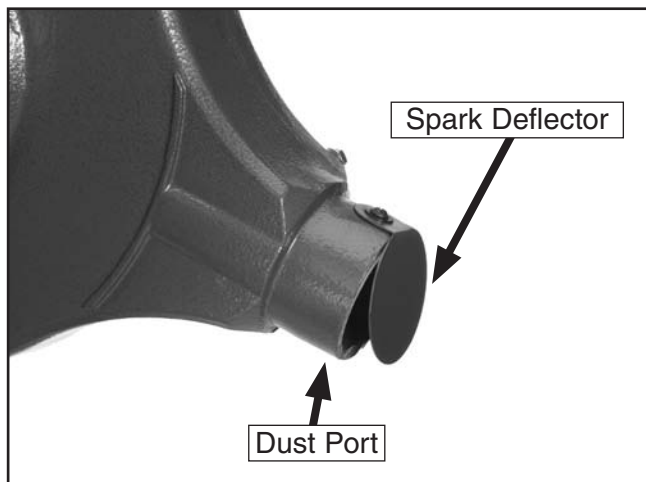

Figure 4. Dust port.
2. Fit the dust hose over the dust port, as shown in **Figure 4**, and secure in place with a hose clamp.